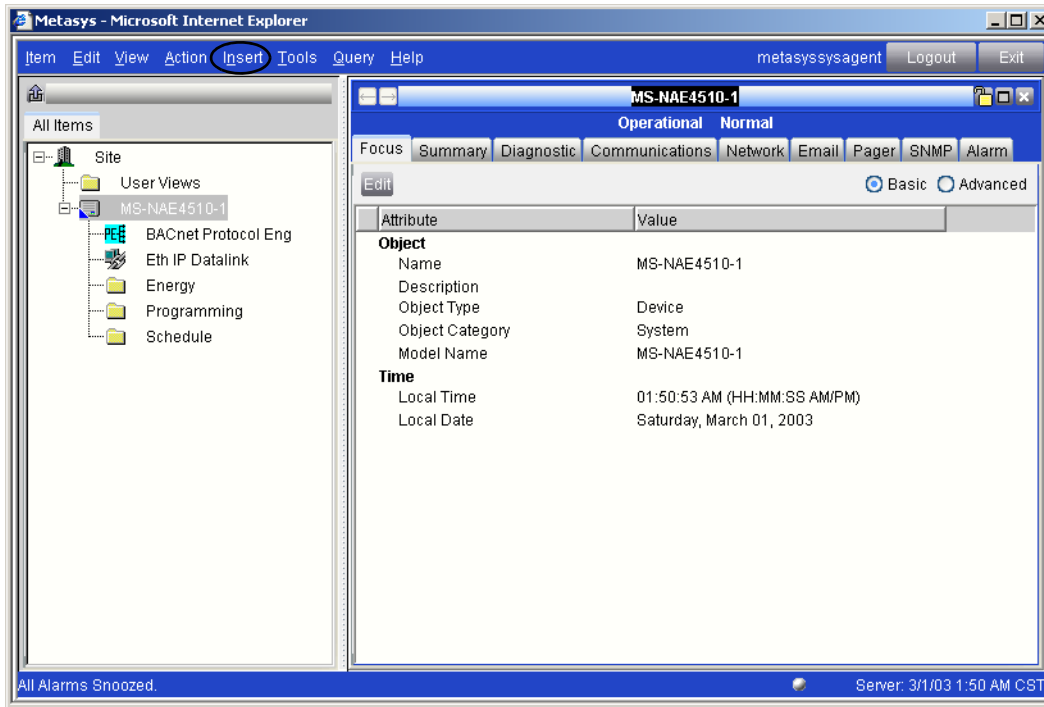
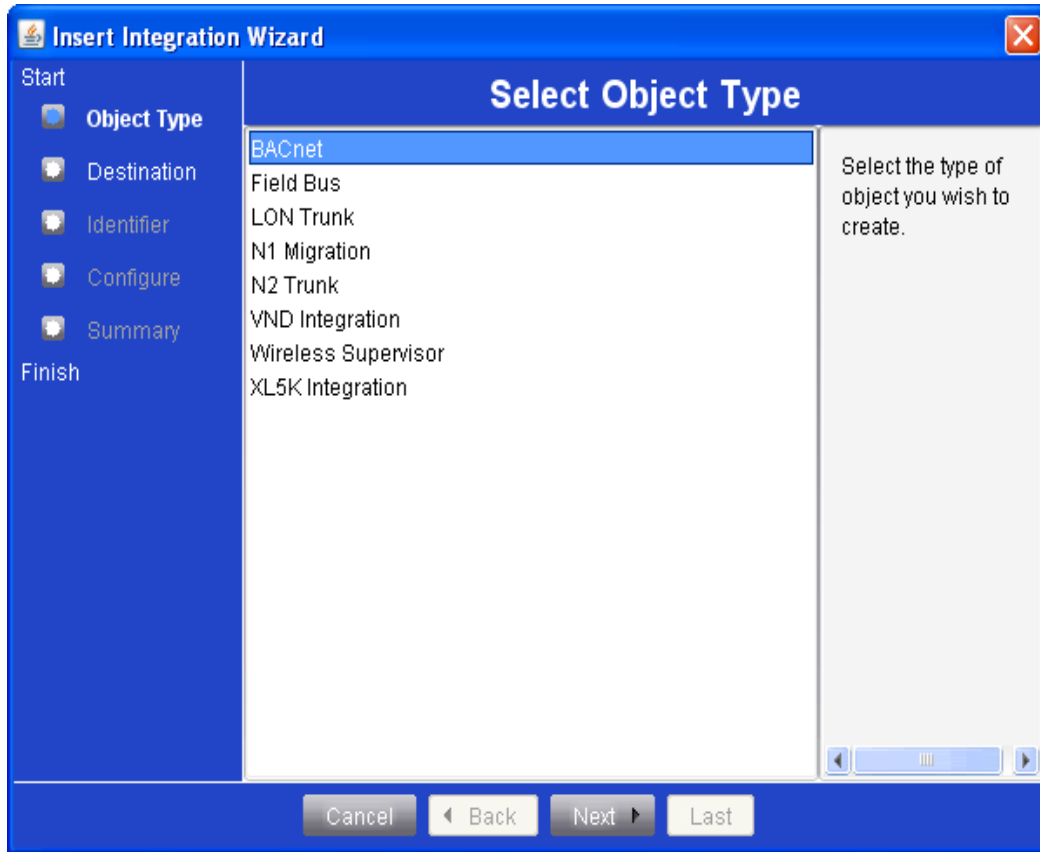
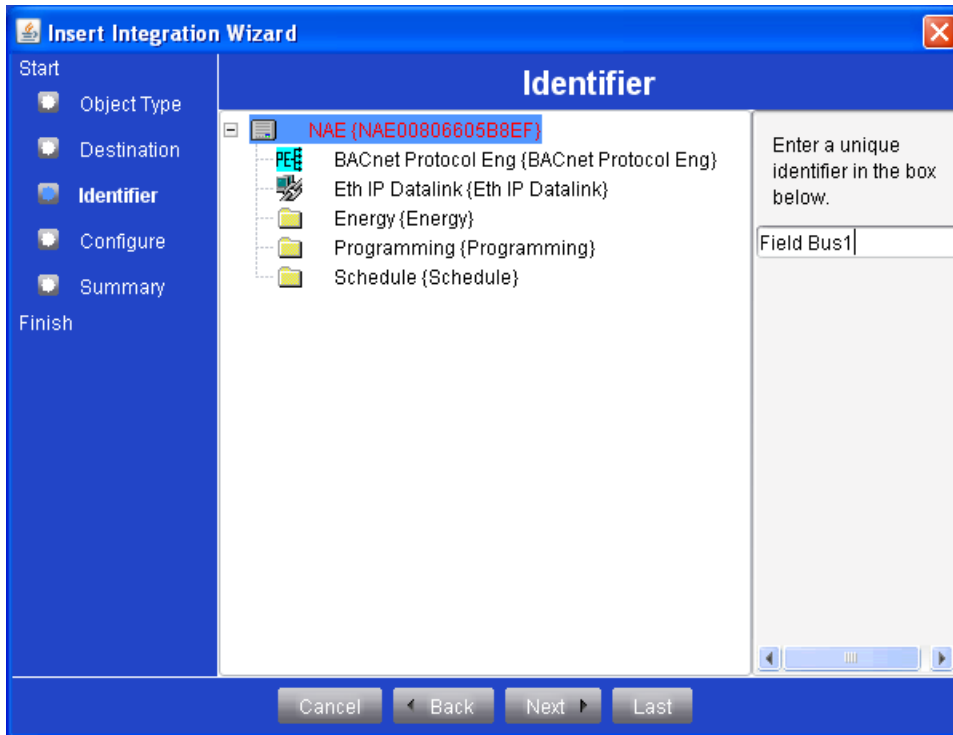
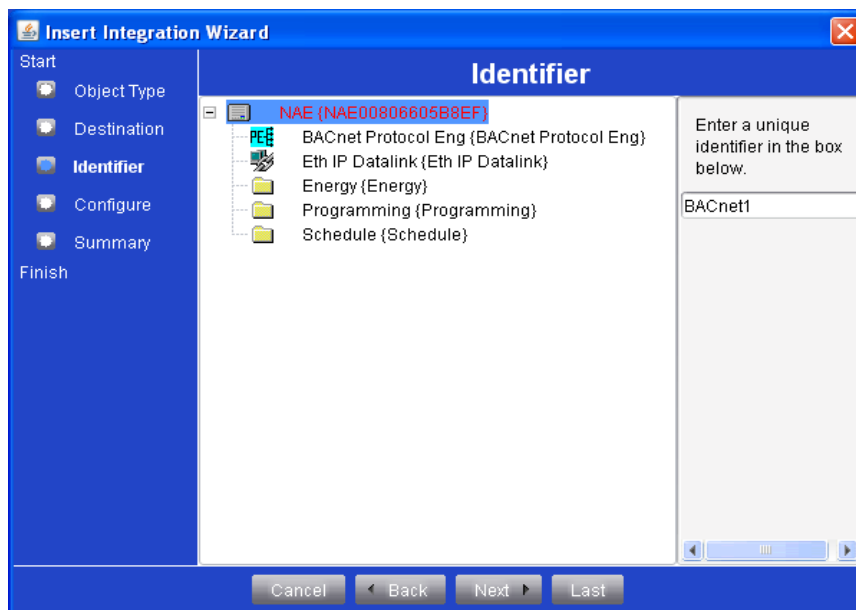

Figure 21: NAE Focus Screen
Figure 22: Insert Integration Wizard - Select Object Type Screen
Figure 23: Insert Integration Wizard - Destination Screen
Figure 24: Insert Integration Wizard - Identifier Screen
1. Log on to the target supervisory controller and display the **NAE Focus** screen (Figure 21).
2. Click **Insert** on the menu bar (Figure 21), and then click **Integration** on the drop-down menu to open the **Insert Integration Wizard - Select Object Type** screen (Figure 22).
3. Select **BACnet** and then click **Next** (Figure 22) to open the **Insert Integration Wizard - Destination** screen (Figure 23).
4. Select the destination supervisory controller for the BACnet integration from the navigation tree, and then click **Next** (Figure 23) to open the **Insert Integration Wizard - Identifier** screen (Figure 24).
5. Enter a unique identifier in the field in the upper right corner of the **Insert Integration Wizard - Identifier** screen (Figure 24), and then click **Next** to open the **Insert Integration Wizard - Configure** screen (Figure 25).
Note: An **Extension Wizard** screen may appear after you click **Finish**. If it does, close the **Extension Wizard** by clicking **Done** to go to the **Insert Field Device Wizard - Destination** screen (Figure 23). In the Insert Field Device Wizard - Destination screen, you can insert a TEC20-3C Coordinator into the BACnet integration you just created. See *Inserting a TEC20-3C Coordinator into a BACnet Integration*.